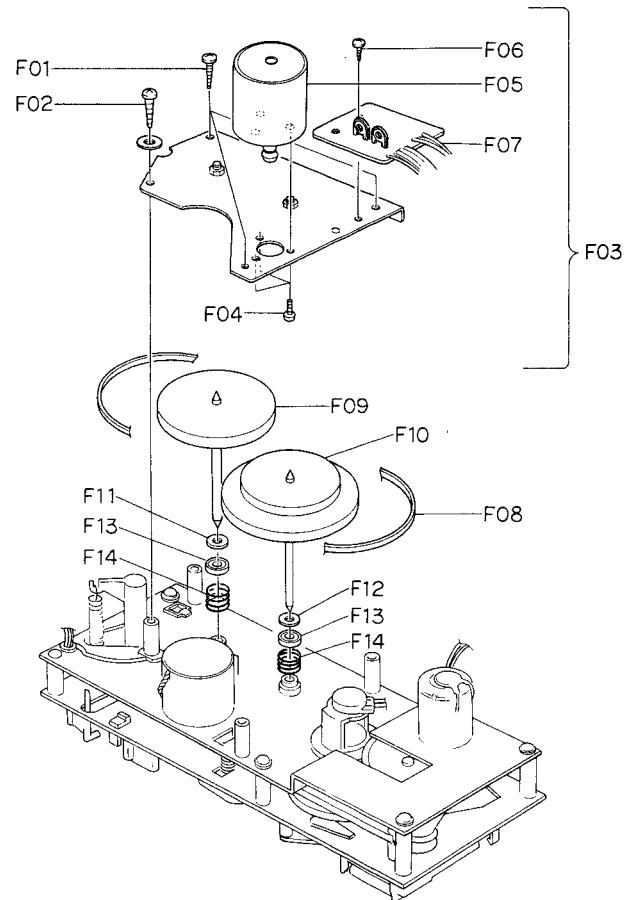

Fig. 2.6
Refer to Fig. 2.6.
- (1) Refer to Fig. 2.6. Remove Flywheel Assemblies referring to item 2.17.
- (2) Remove F01 and F02, then disassemble F03 (Sub Mechanism Chassis Ass'y).